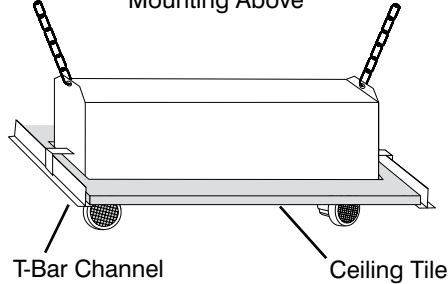

Figure 3
7. Uncoil the wire lead(s) from the Positive circuit board terminal (+) and connect to the positive terminal connector on the battery (Figure 3).